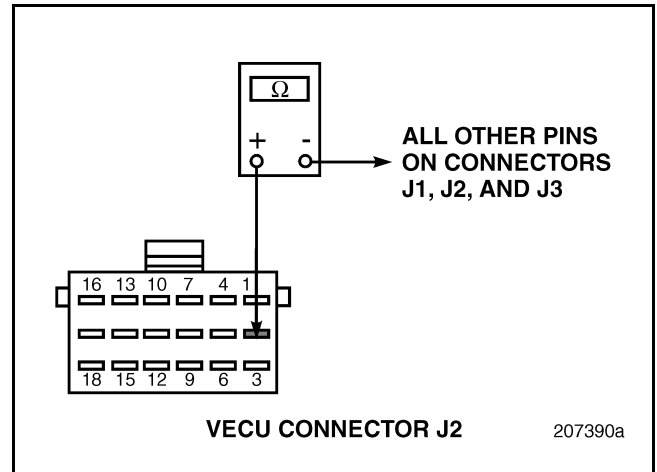

Figure 234
4. Check for continuity between Vehicle Electronic Control Unit (VECU) connector J2 pin 2 and all other pins in connectors J1, J2, and J3 (see Figure 234).